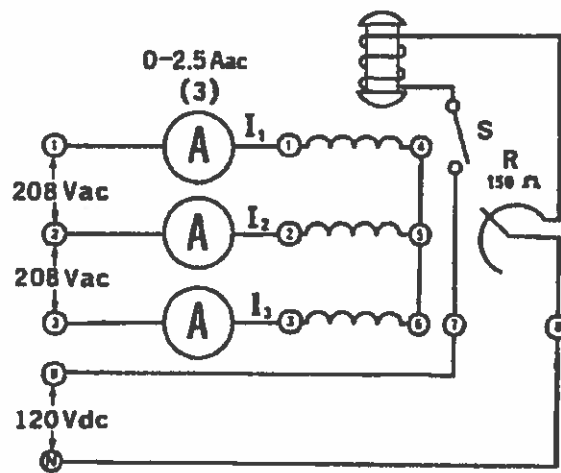

Figure 28-1.
1. Because of its constant running speed, the synchronous motor will be used to mechanically drive the DC generator. Using your Power Supply, AC Ammeter and Three-Phase Synchronous Motor/Generator, connect the circuit shown in Figure 28-1.